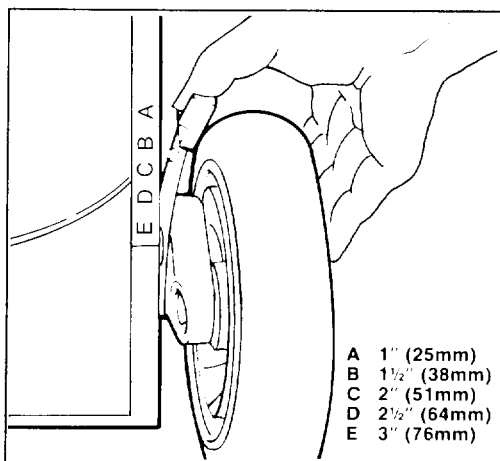

Figure 13
Five letters cast into the housing represent each graduated increment (Fig. 13).
2. For easier adjustment, lift housing up so wheel is off ground. Squeeze adjusting lever toward wheel and move to desired setting (Fig. 13). Assure pin on adjusting lever engages notch in housing. Adjust all wheels to the same setting.